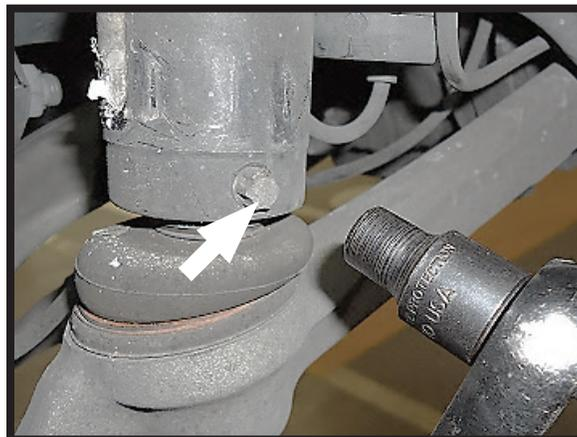

FIGURE 12
7. LOCATE AND LOOSEN LOWER MOUNT SET SCREWS. (FIGURE 12)